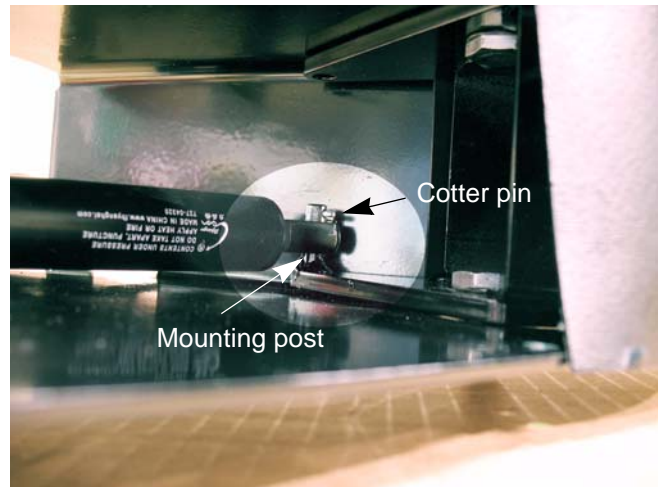

Figure 6.104
3. Install a new cotter pin. See Figure 6.104.